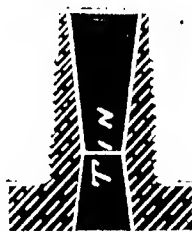

FIG. 12.—FUSIBLE PLUG.
**Fusible Plug.**—One of these plugs is screwed into the shell of a boiler to give warning to the engineer of low water. It consists of a brass shell threaded on the outside with a standard pipe thread. The inside cavity is filled with an alloy which will melt at a heat a little above that of the ordinary steam pressure of the boiler (Fig. 12). As long as the plug is covered by water the fusible alloy is kept from melting by the rapid absorption of the heat by the water, but should the water sink below the level of the